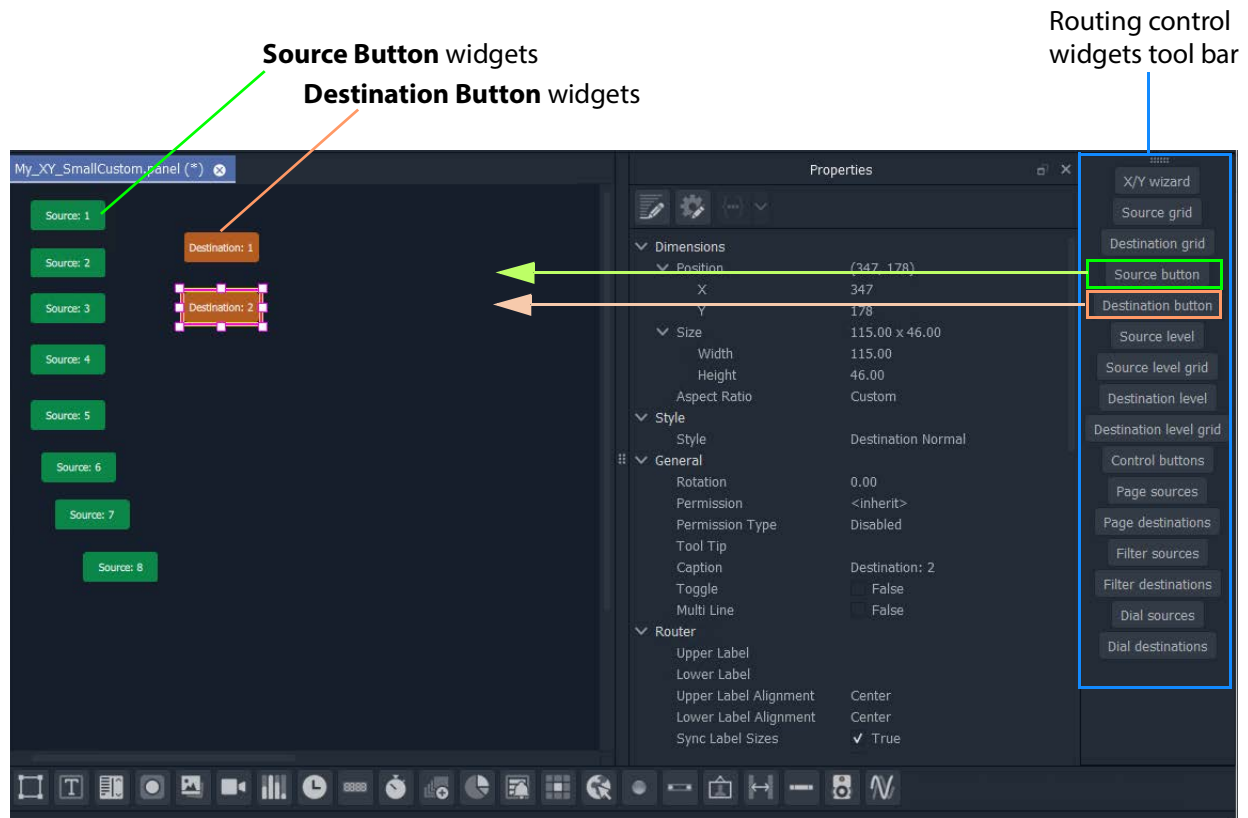

Fig. 13-41: Adding Source and Destination Buttons
- 1 Add 8 **Source Button** widgets from the Routing widget tool bar (see Figure 13-41).